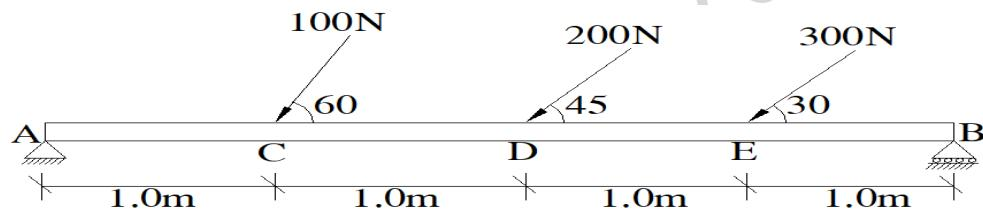

Figure 7
c) A horizontal beam AB of length 4 m is hinged at A and supported on roller at B. The beam carries inclined loads as shown in figure 7. The inclinations are in degrees. Draw the thrust diagram only.